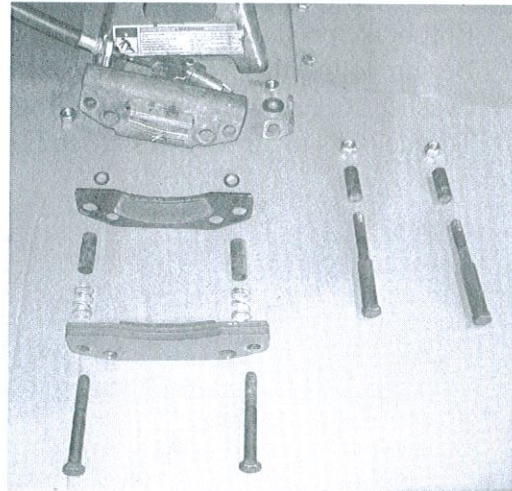

Fig R4 - disassembly
4. Remove the two outer bolts to disassemble caliper. (See Fig R4) **Be careful to keep all nuts, washers and sleeves.**